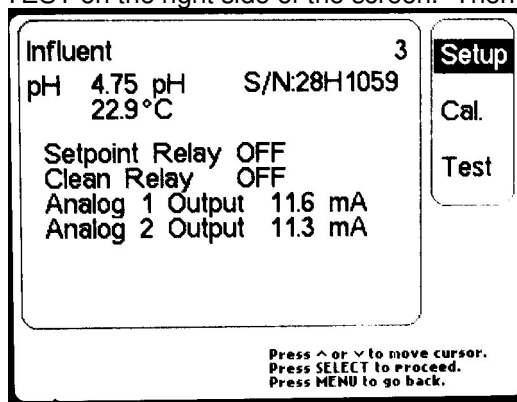

Figure 35 - Channel Info (pH/ORP)
2. From the CHANNEL INFO screen (Figure 35), press the down arrow key twice to highlight the word TEST on the right side of the screen. Then press SELECT.
2. From the CHANNEL INFO screen (Figure 35), press the down arrow key once to highlight the word CAL on the right side of the screen. Then press SELECT.
2. The CHANNEL INFO screen (Figure 35) should have the word SETUP highlighted on the upper right corner of the screen. Press SELECT.